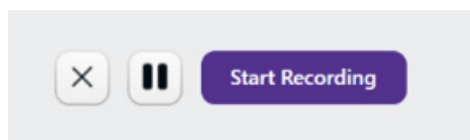

Figure 15. Recording controls.
8. Start the recording by clicking 'Start Recording', in the top right hand corner of the PCS window (Figure 15).